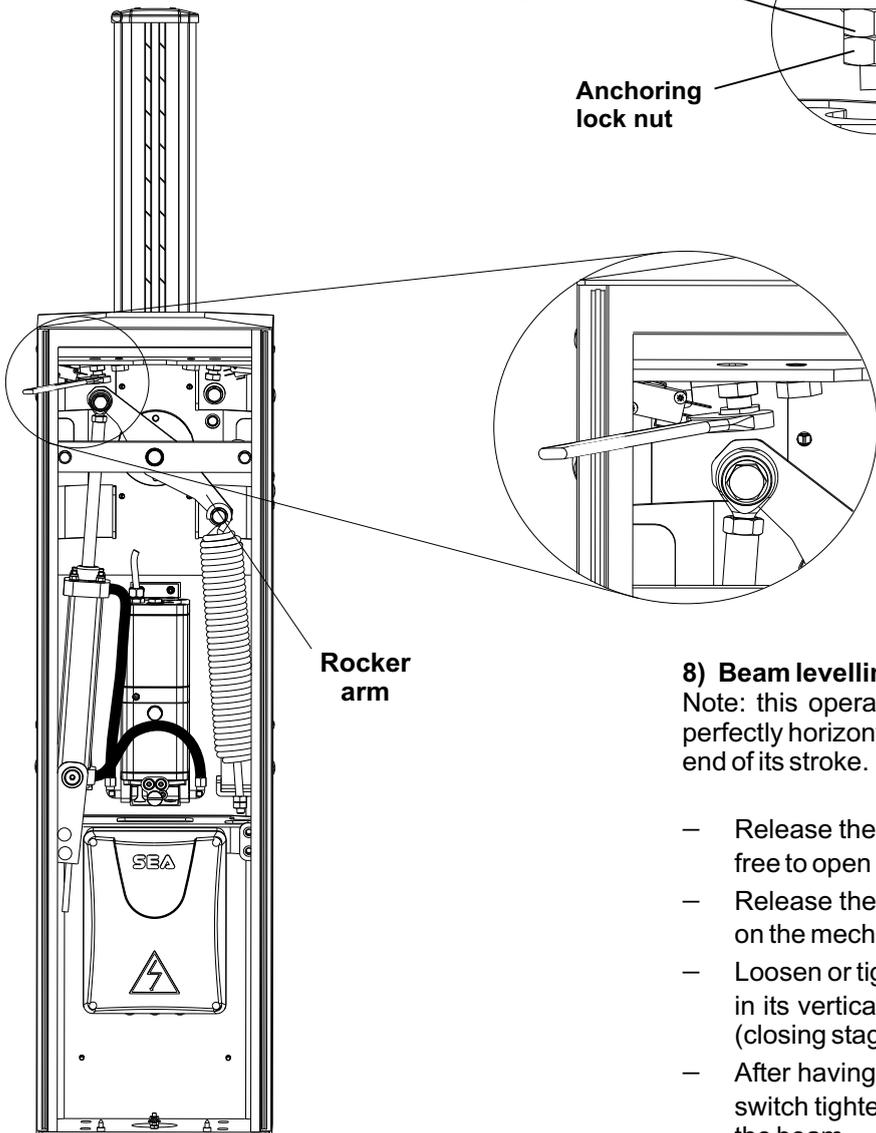

Fig.13
- Release the screws of the limit switch on unscrewing the nuts on the mechanical stops (fig. 13).
- Loosen or tighten the stop screws so that the beam is released in its vertical position (opening stage) and horizontal position (closing stage) (Fig. 13).